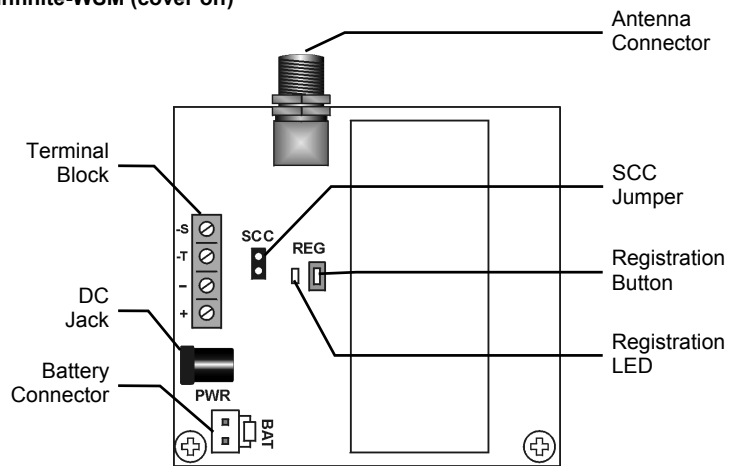

Figure 2: infinite-WSM PCB
- To enable the Strobe Current Conservation feature, install the SCC jumper – see Figure 2.